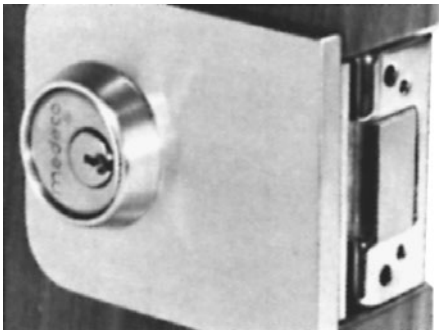

Figure 13.40 Tightening mounting screws.
12. Turn the mounting screws finger tight; then give them approximately one-half turn more (Fig. 13.40).